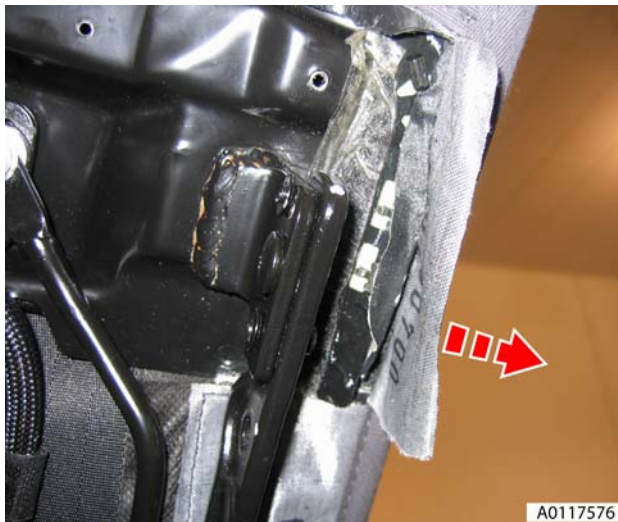

Figure 6
10. Pull back canopy flag covering tension cable clips (see Figure 6).